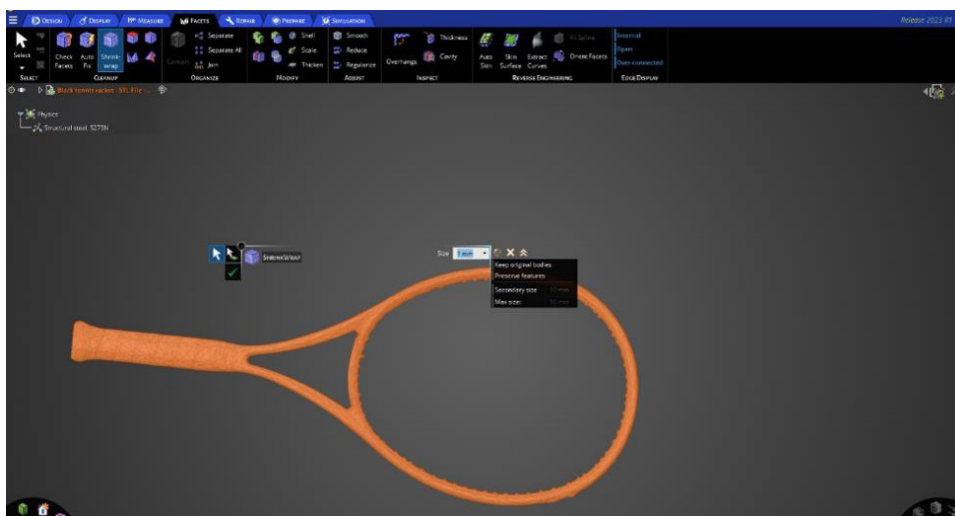

Figure 5: Shrink-wrapping the scan data with 1mm
3. Further refine the data using “Shrink wrap”, to close any remaining gaps or imperfections. Entering a size of “1 mm” within the size tab (Figure 5).